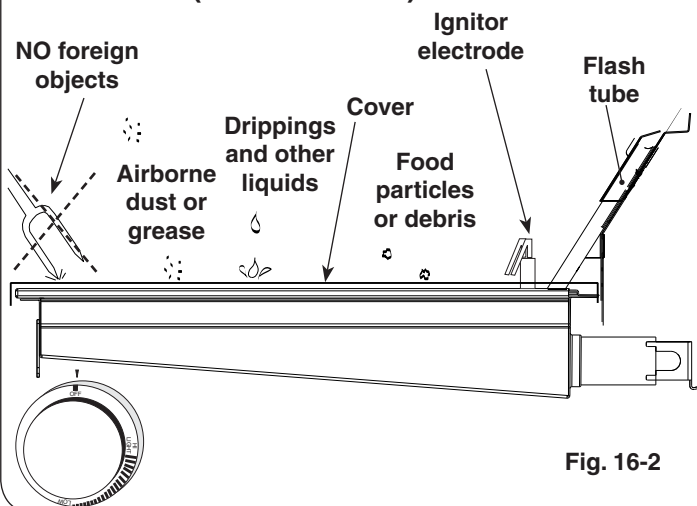

Fig. 16-2
- When not in use, **always** cover the infrared burner with the stainless-steel cover. This protects the burner from drippings (from other cooking), airborne particles, and foreign objects (Fig. 16-2).
- Do not strike or scratch the burner ceramic as it may chip, crack, or break (Fig. 16-2).